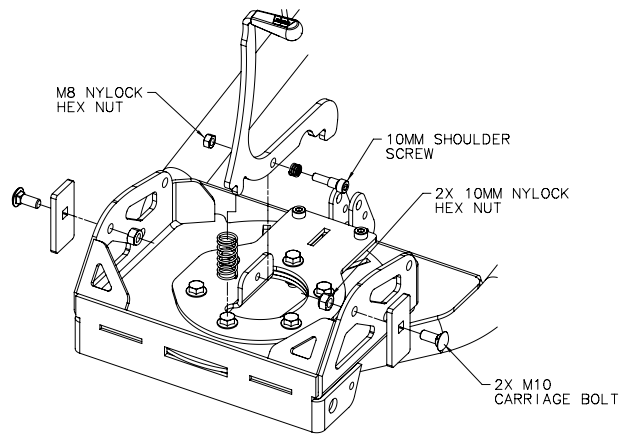

Figure 1 Assemble Plow Lever
1. Assemble the plow lever arm per Figure 1. Run a 10mm dia shoulder bolt through the lever arm side and out the center hole in the plow base. Use the small compression spring between the shoulder screw and the latch. Terminate with a 8mm dia lock nut. Tighten until the shoulder screw is firmly against the plow base. Latch lever should rotate freely.
2. Attach both stop blocks, as shown in Figure 1. Insert the M10 carriage bolt through each block and into the plow base as shown in Figure 1. Notice that hole in stop block is not in the center. This block produces three blade angle settings and must be set the same on both sides of base. Terminate with a 10mm dia lock nut.
*NOTE: It is recommended to first place the stop block in the position shown in Figure 1. See the "ATV Plow Operator's Guide" for instruction on blade attach angle settings.*